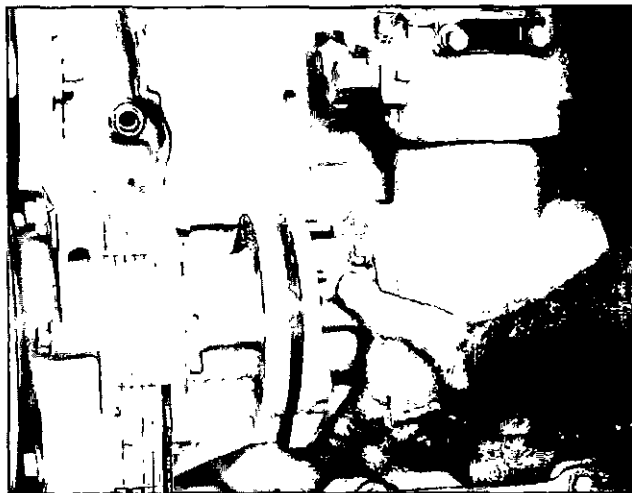

Fig. 0-26. Remove The Air Compressor.
2. Remove the air compressor from the accessory drive, Fig. 0-26.